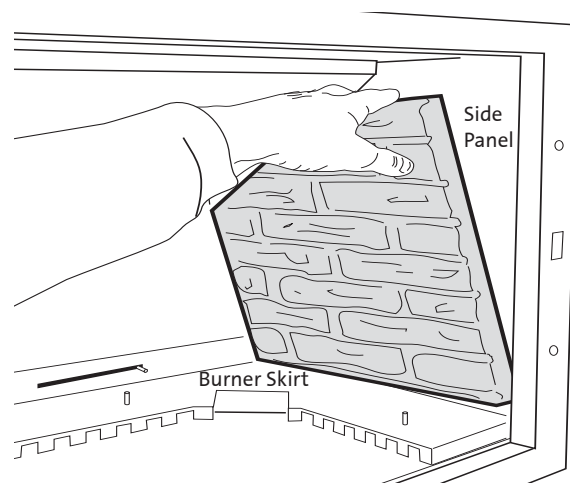

Figure 39. Install the Side Panels.
- 3. Install the Side Panels.** Set the bottom edge of each side panel on the Burner Skirt and against the firebox wall. Push the panel forward against the front lip of the firebox opening. See fig. 39.